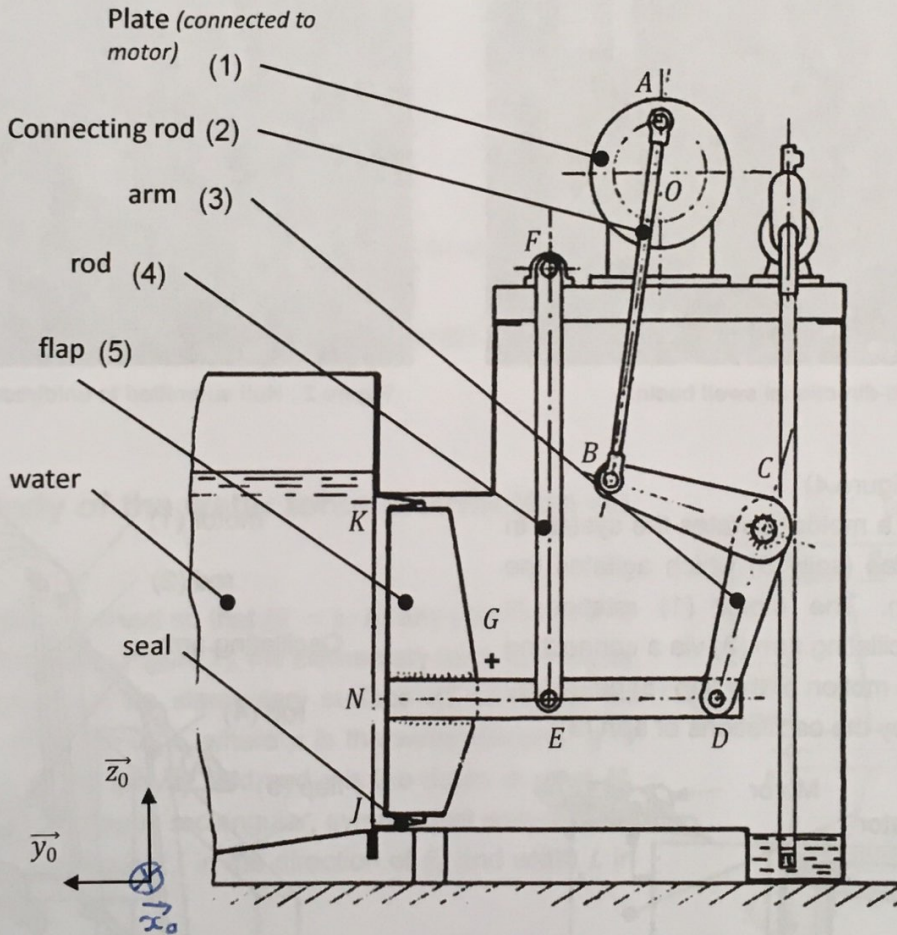

Figure 5 : Planar representation of the swell simulator
**Hypotheses:** (see Figure 5)
**Modelling:** (see Figure 5 and 6)